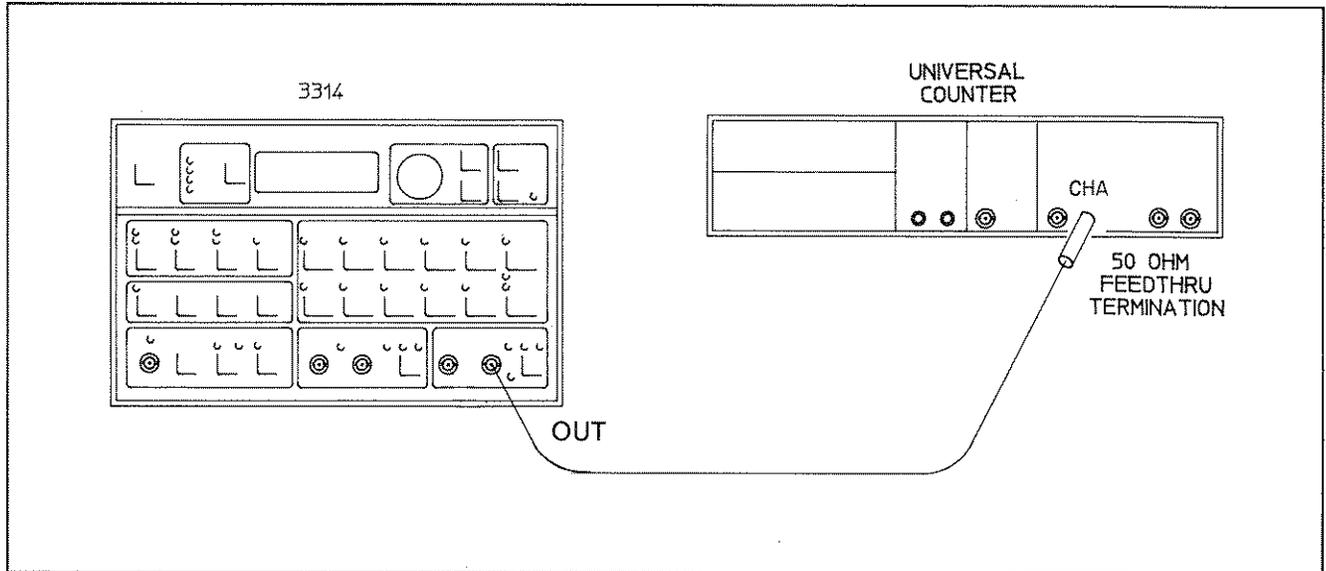

Figure 4-1. Frequency Accuracy Test
D. Connect the output of the 3314A to the Counter input (see Figure 4-1).